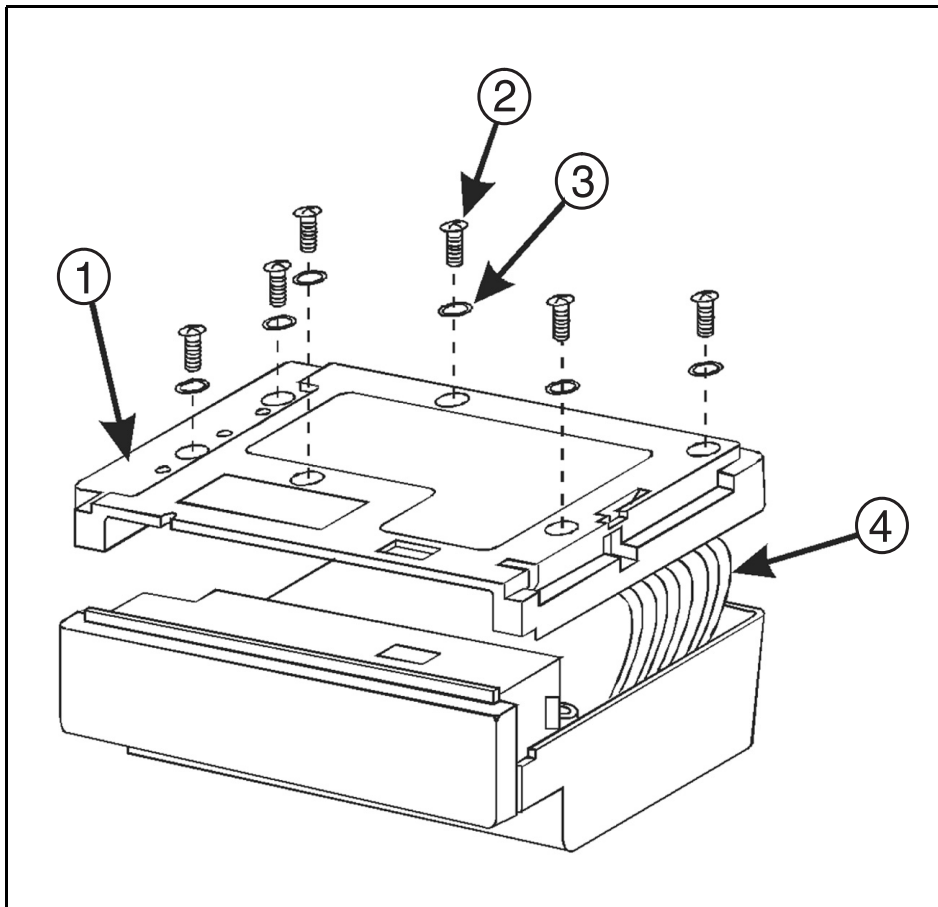

Figure 6-3. Rear Case Assembly Removal
2. Refer to Figure 6-3. Place the pump face down on a flat, clean surface.
3. Remove the six screws (2) and six flat washers (3) from the Rear Case Assembly (1).